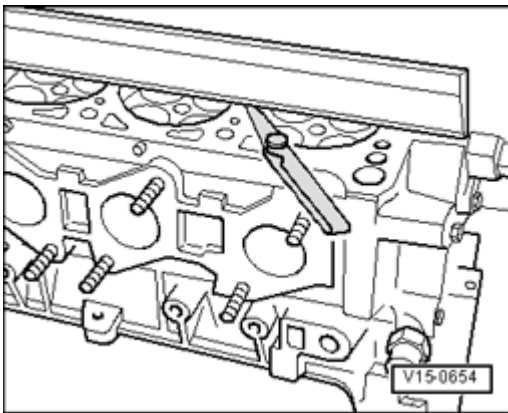

Fig. 203: Checking Cylinder Head For Distortion
- Check for warpage. See **Fig. 203**